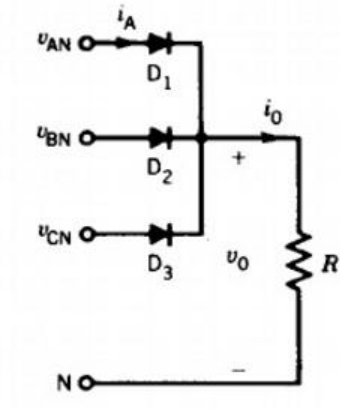
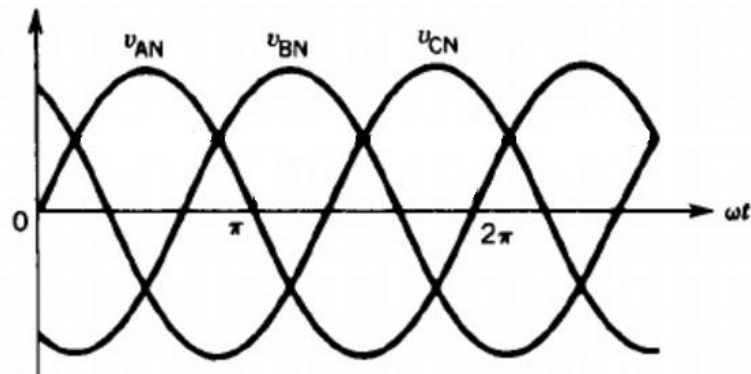

Fig. 2
Fig. 3
Fig. 2 shows an uncontrolled rectifier connected to a three-phase voltage source. The phase voltages are $v_{AN}(t)$, $v_{BN}(t)$ and $v_{CN}(t)$ respectively. The waveform of the three-phase voltage source connected to the uncontrolled rectifier is shown in **Fig. 3**
- 1.2. Draw the output waveform $v_o(t)$ and phase C current $i_c(t)$ on the same graph by using **Fig. 3** as the reference waveform.